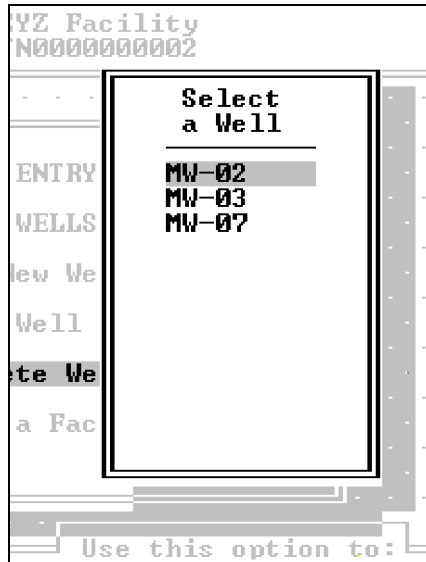

Figure 3-33. The **Select a Well** menu allows you to choose a well to toggle the deletion mark for,
3. A pop-up list of wells for the currently selected facility appears as shown in Figure 3-33. Use the up and down arrow keys to highlight the well that you wish to mark for deletion (or unmark) and press **<Enter>**.